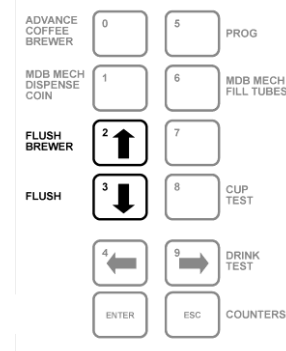

Figure 11b. Keypad Flush
1. Go to the **internal** keypad, press the square next to **FLUSH** to clean the whipper bowls. See Figure 11b.
2. In a Fresh Brew Machine, **also** press the square next to **FLUSH BREWERS** to clean the brewer and filter. See Figure 11b